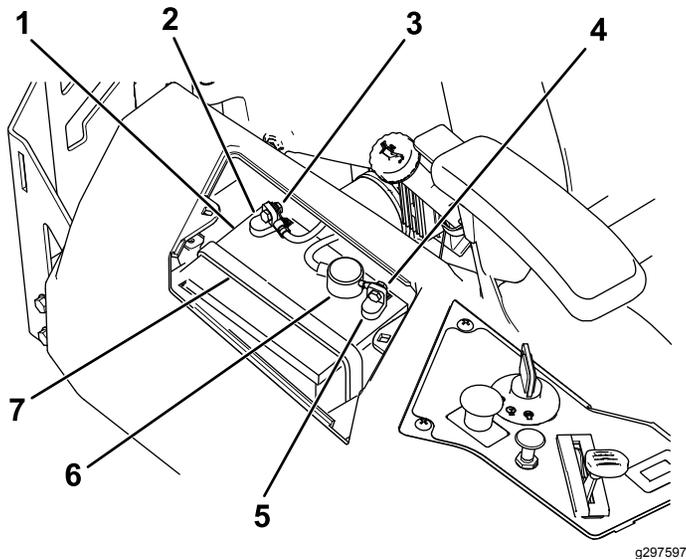

Figure 40
- 4. Disconnect the negative (black) ground cable from the battery post (Figure 40).
- 6. Disconnect the positive (red) cable from the battery post (Figure 40).
- 7. Remove the battery hold-down (Figure 40), and lift the battery from the battery tray.
- 1. Position the battery in the tray (Figure 40).
- 5. Secure the battery with the hold-down (Figure 40).